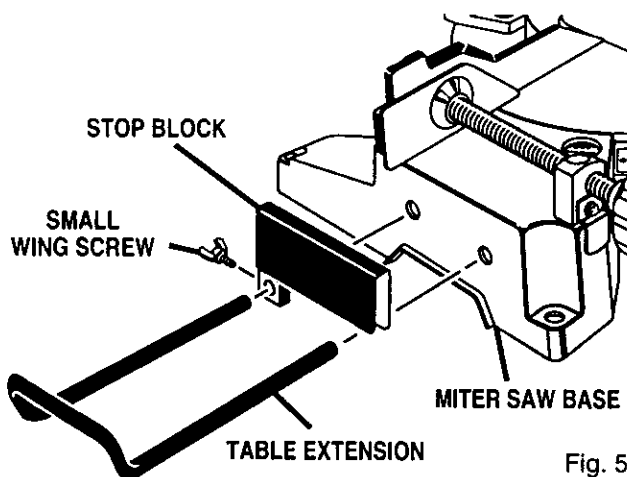

Fig. 5
See Figures 5 and 6.
- Slide the stop block on the back arm of either table extension, then insert the table extension into the saw base. See Figure 5.
- Use the small wing screw to secure the stop block to the table extension. See Figure 5.